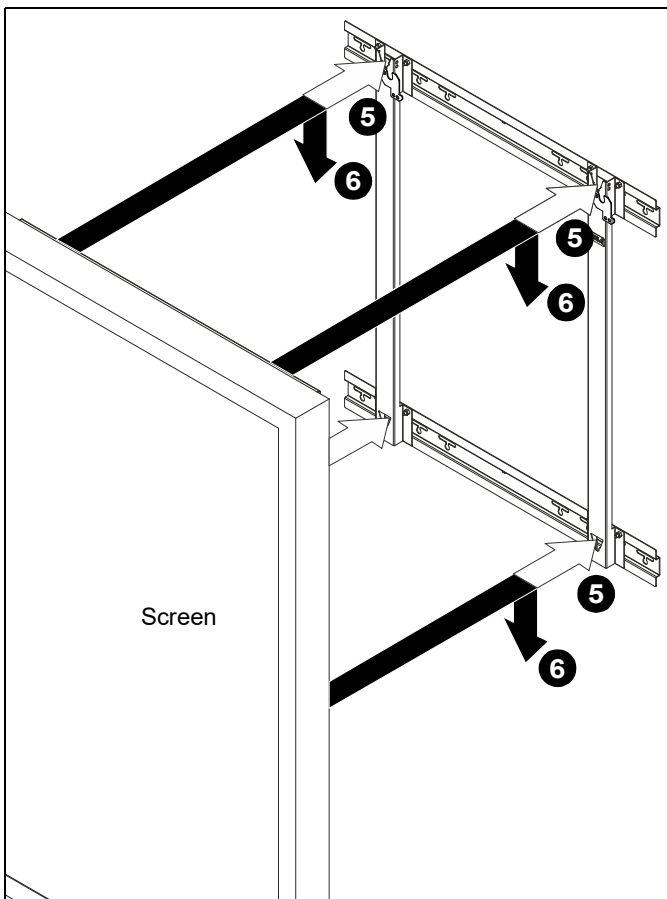

Figure 8
4. Align mounting buttons on screen with teardrop mounting holes in mount. (See Figure 8)
5. Move screen forward until recessed area of mounting buttons is positioned over lower area of teardrop mounting holes. (See Figure 8)
6. Lower screen until recess area of mounting buttons is seated in lower area of teardrop mounting holes. (See Figure 8)